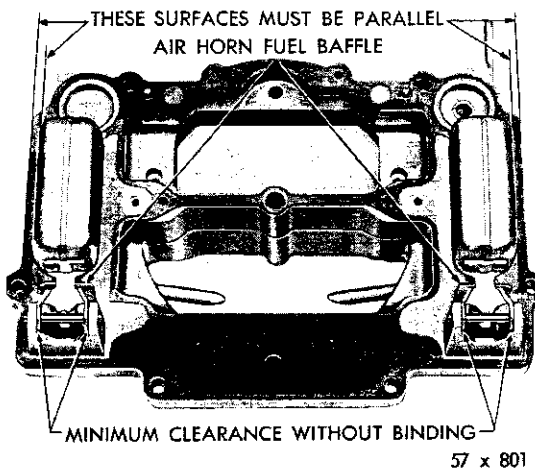

Fig. 45—Inspecting the Float Alignment
(1) Sight down the side of each float shell to determine if the side of the float is parallel to the outer edge of the air horn casting, as shown in Figure 45.
(2) If the sides of the float are not in alignment with the edge of casting, bend the float lever by applying pressure to the end of the float shell with the fingers while supporting the float lever with the thumb.